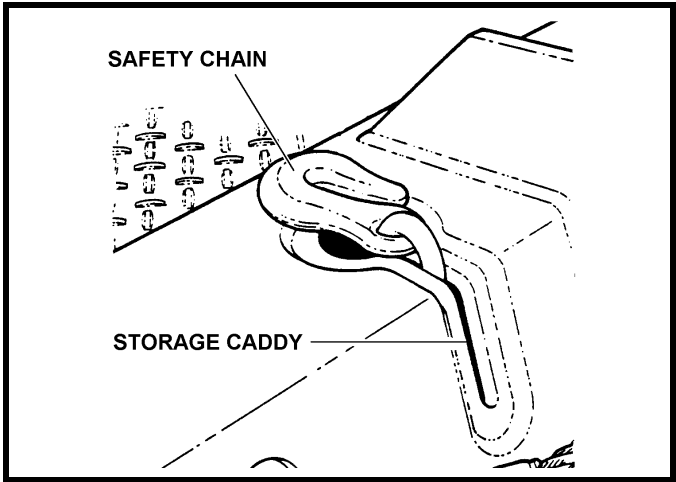

FIGURE 3.7
3.9 Always use SAFETY CHAINS on all towing and lifting applications. The safety chains are located on the top rear of the wrecker body. See Figure 3.7. Refer to Section 4.8 for proper safety chain procedures.